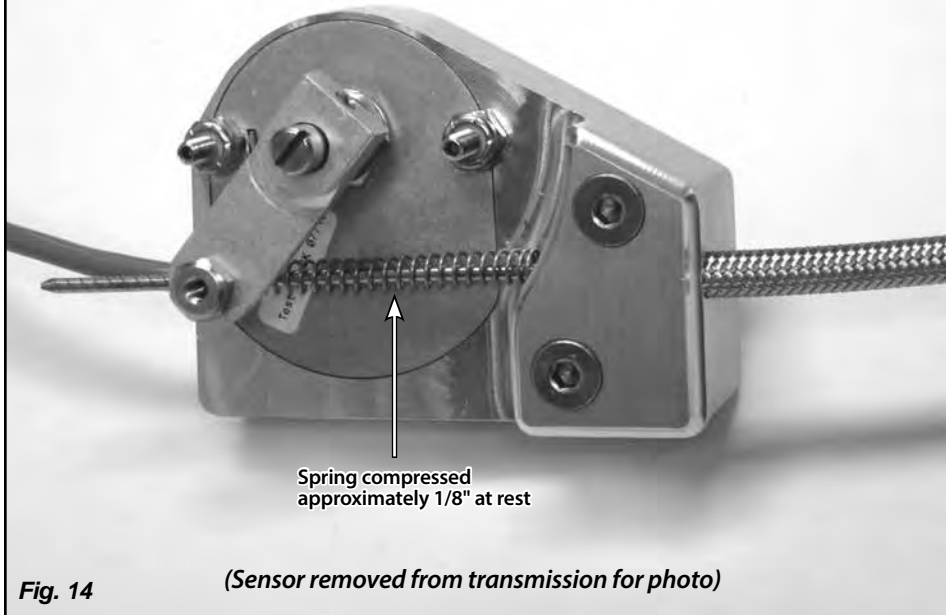

Fig. 14
- **All applications with the trans arm pointing UP: Push the sensor arm up against the spring, so that the spring is compressed approximately 1/8" at rest in Park. Fig. 14** While holding that position, tighten the set screw in the index cable stop on the sensor arm using a 1/16" Allen wrench.